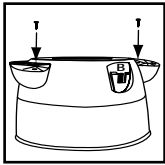

FIGURE 4
4. Make sure caster feet are fully inserted into tank bottom and secure with screws provided. **FIGURE 4.**